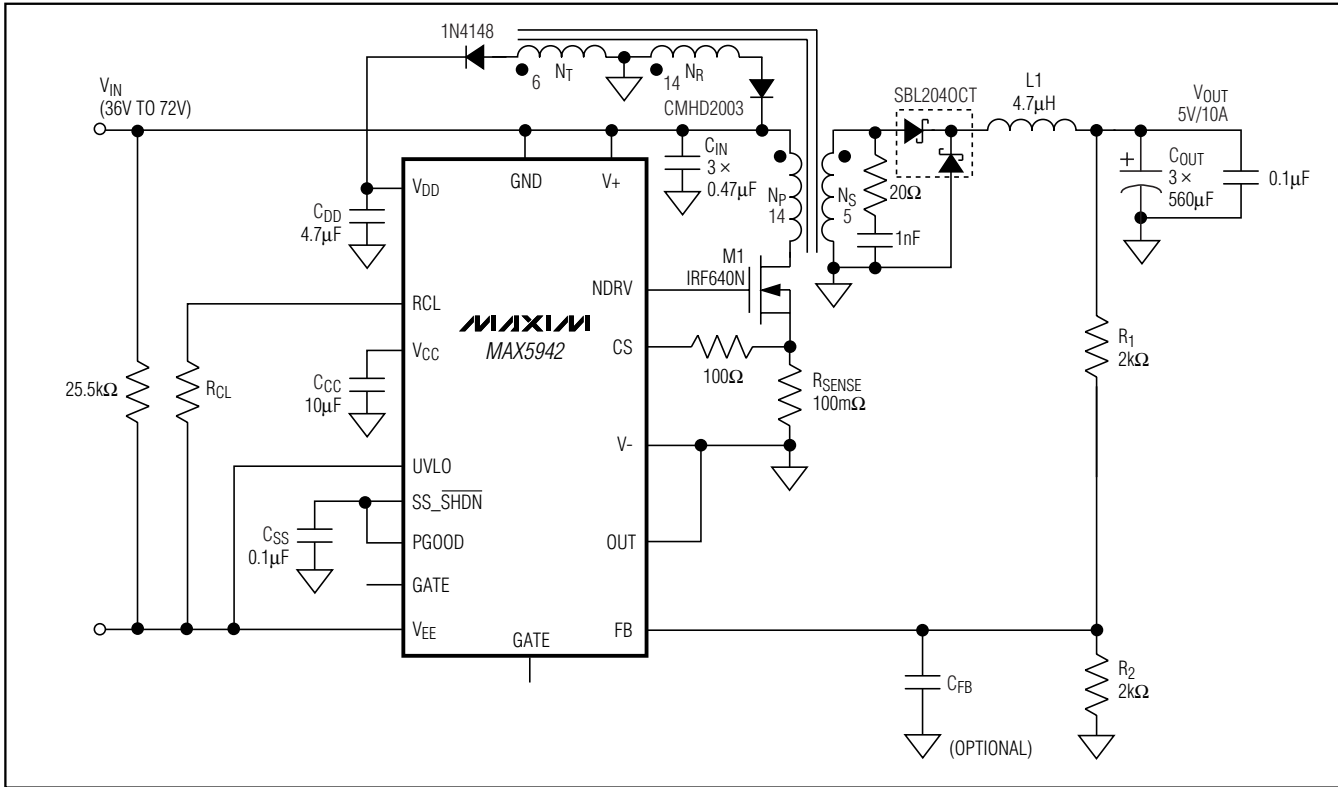

Figure 5. Forward Converter
The current-sense (CS) comparator and its associated logic limit the peak current through the MOSFET. Current is sensed at CS as a voltage across a sense resistor between the source of the MOSFET and GND. To reduce switching noise, connect CS to the external MOSFET source through a 100Ω resistor or an RC low-pass filter (Figures 5, 6). Select the current-sense resistor,  $R_{SENSE}$  according to the following equation: